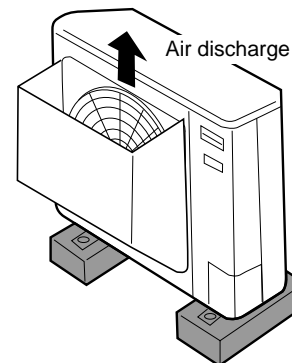

Fig. 5a
- the air-discharge outlet faces a sidewalk and discharged hot air may disturb people passing by. Refer to Fig. 5a.